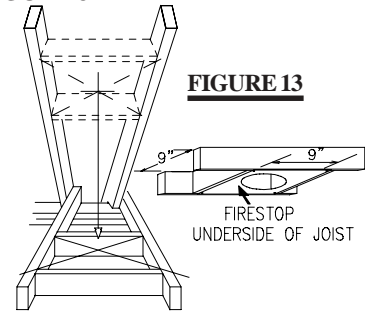
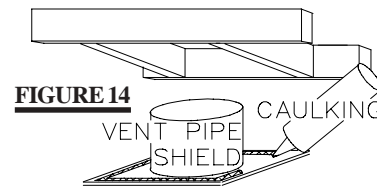

FIGURE 13
FIGURE 14
2. Apply a bead of caulking (not supplied) to the framework or to the Wolf Steel vent pipe shield plate or equivalent (in the case of a finished ceiling), and secure over the opening in the ceiling. **FIGURE 14.** A firestop must be placed on the bottom of each framed opening in a roof or ceiling that the venting system passes through. **FIGURE 13.** Apply a bead of caulking all around and place a firestop spacer over the vent shield to restrict cold air from being drawn into the room or around the stove. Ensure that both spacer and shield maintain the required clearance to combustibles. Once the vent pipe is installed in its final position, apply sealant between the pipe and the firestop spacer.